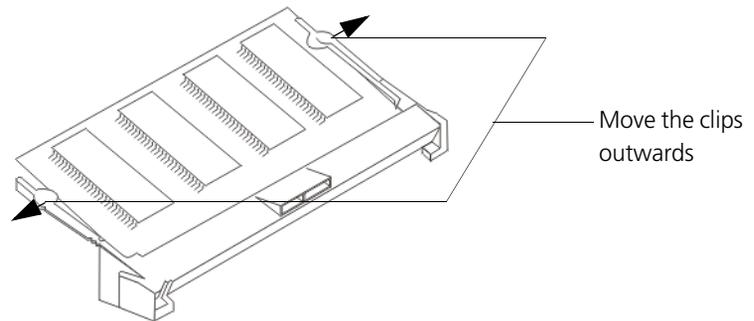

Figure 17: Close-up of memory modules and clips
- c. Using both hands, and using a slight left to right movement, lift the memory module out of its socket (see Figure 17).
3. Using the thumb and forefinger of both hands, grasp the memory module and lift it out of the socket (see Figure 17 on page 171).